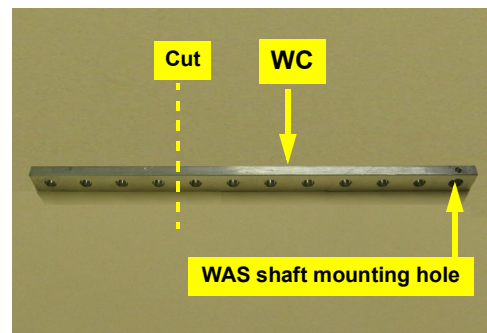

Figure 1b: WAS arm preparation
- Cut four holes off the WAS arm **WC** at the opposite end from the WAS shaft mounting hole (Figure 1b).